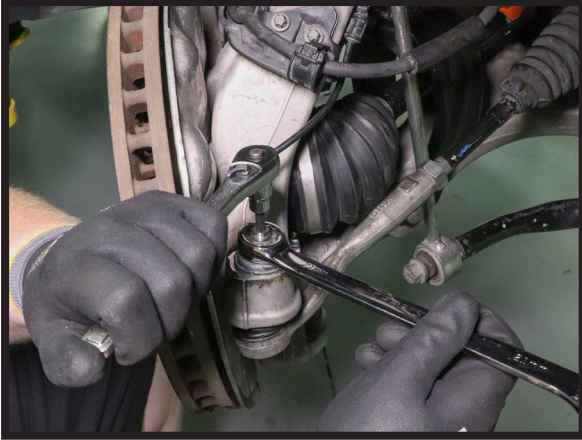

FIGURE 5
7. DISCONNECT STEERING KNUCKLE JOINT. (FIGURES 5, 6)